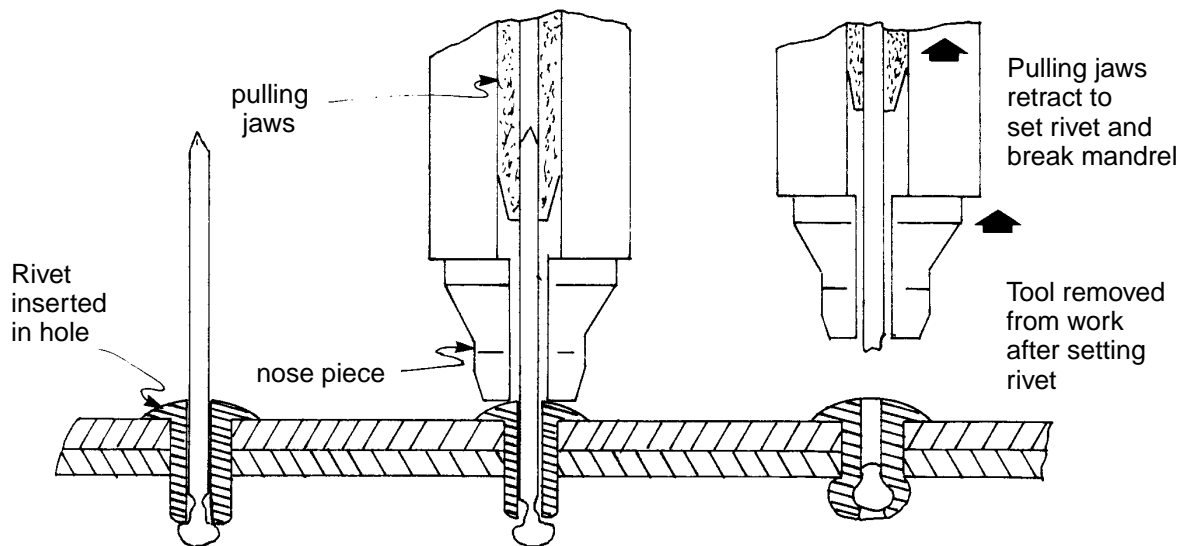

Figure 5 - Riveting Operation
- 5.5.1 Install rivets as follows (see Figure 5):